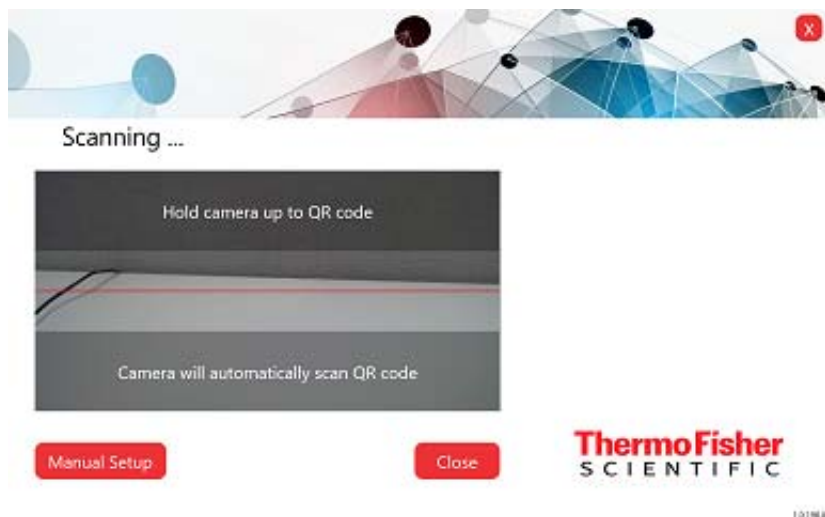

Figure 3-51. Scanning the QR Code
- When the Scanning window is displayed (see Figure 3-51), prepare to scan the QR code with the tablet camera. To do so, hold the tablet so that the entire QR code is displayed squarely on the tablet. When properly aligned, the QR code is captured and the tablet camera is turned off.